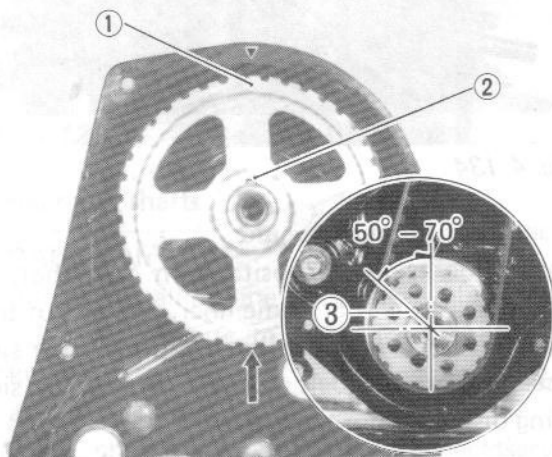

Fig. 4-136
Before installing the pulley as above, check to be sure that crankshaft keyway ③ is in the 50° - 70° range, as shown in Fig. 4-136.